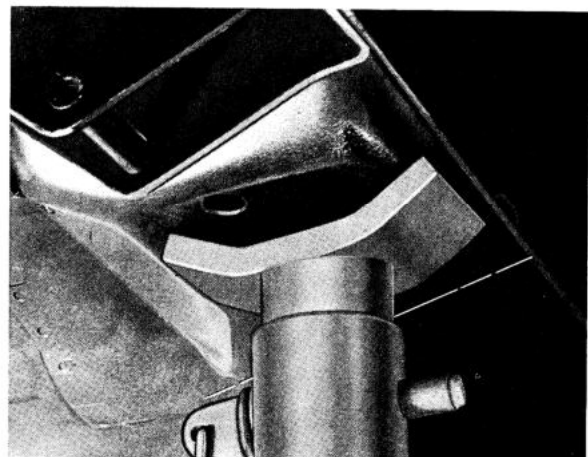

Fig. 7-4. Location of the axle prop for propping up the vehicle rear end
1. Remove the hub cap and loosen the wheel nuts a couple of turns. Jack up the vehicle. Place axle props in front of the rear jack attachments according to Fig. 7-4. Remove the wheel.
1. Remove the hub cap. Slacken the wheel nuts a couple turns. Jack up the rear end of the vehicle at the jack attachments. Place blocks in front of the jack attachments according to Fig. 7-4. Remove the wheel. Unscrew and remove the shock absorber.
1. Raise the vehicle by placing props in front of the rear jack attachments according to Fig. 7-4. Do not remove the jack.
1. Raise the rear end of the vehicle by placing props in front of the rear shock absorber attachments according to Fig. 7-4.